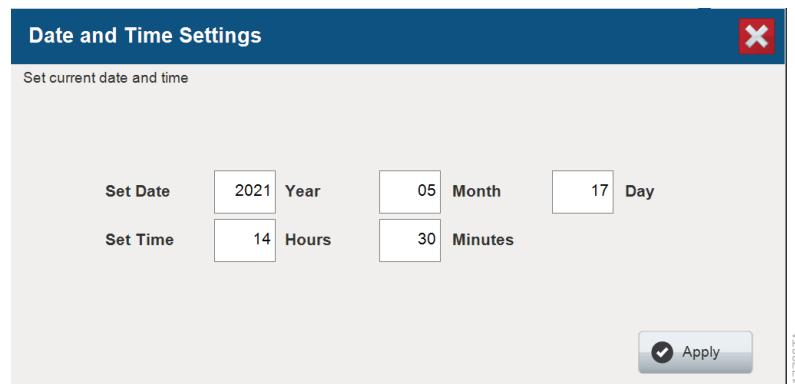

Figure 175. 'Date and Time Settings' screen.
2. Change year, month, day, hours, and minutes on 'Date and Time Settings' screen, then select **Apply** (Figure 175).